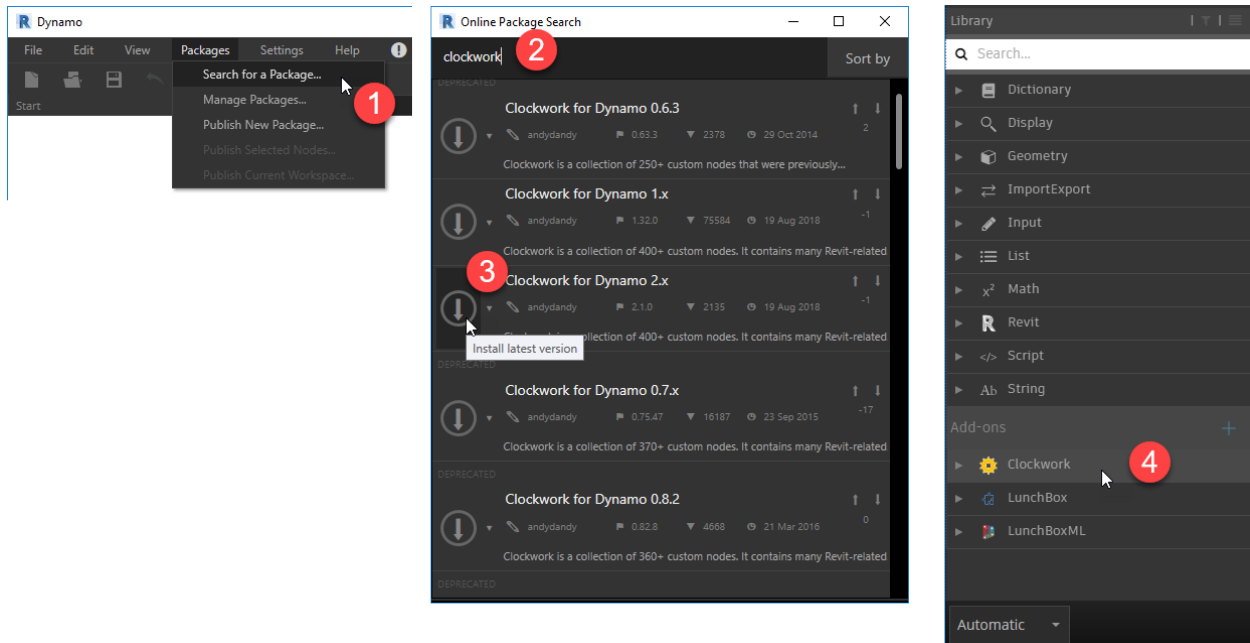

FIGURE 45
6. Launch Dynamo and then from the Packages menu and choose: **Search for a Package** (see the left side of Figure 45). (If prompted read and then accept the terms of use).
8. When Clockwork for Dynamo appears, locate clockwork for Dynamo 2.x and then click the arrow icon on the left to download and install it (see the middle of Figure 45).
If you search for Lunchbox in the Package Manager, it does show up, but the install available does not properly install it for Dynamo 2.x. There is a note to this affect when you click on the Lunchbox item in Package Manager. This is why we installed it from the Provingground web page instead. Once installation is complete, you will see a new Add-ons branch in your library panel. It will show Clockwork and LunchBox (see the right side of Figure 45).